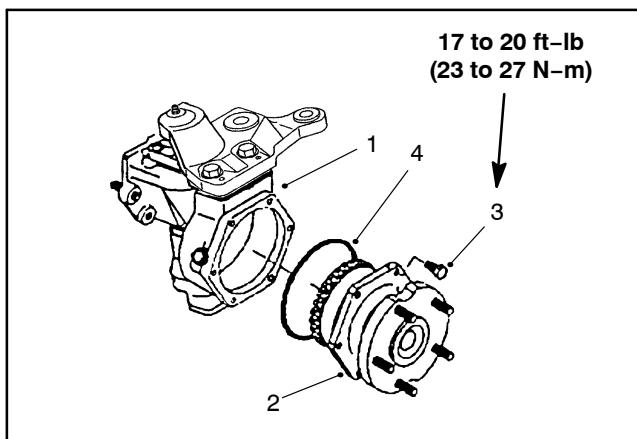

Figure 19
3. Remove the axle cover mounting screws. Remove the axle cover from the axle case as an assembly (Fig. 19).